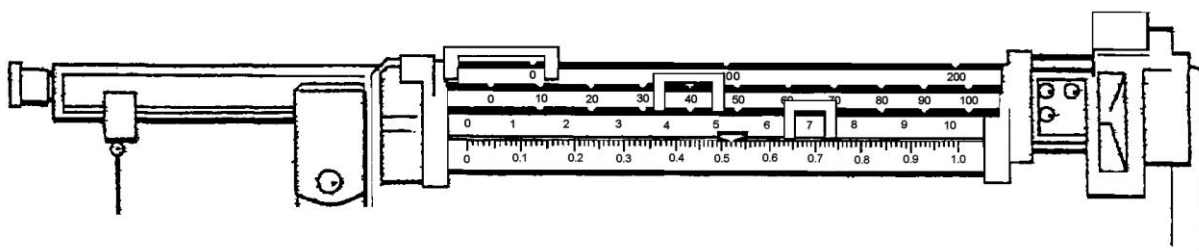

FIGURE 6. The mass of the object would be read as 47.52 grams.
5. The mass of the object will be the sum of the masses indicated on the beams, as shown in FIGURE 6 and 7. Subtract the mass of the container from the total mass reading, if necessary.